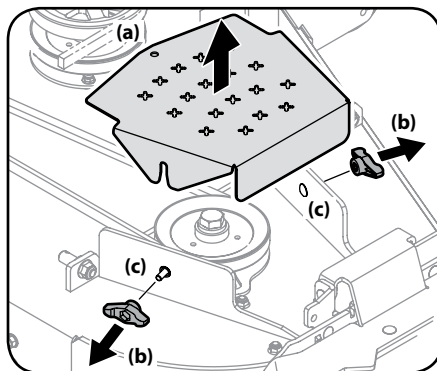

Figure 4-14
3. To remove the belt covers (a), remove the wing knobs (b) from the carriage screws (c) securing it to the deck. See Figure 4-14.
4. The speed nut should hold the carriage screw (c) and tab bolt in place, if not re-install as shown in Figure 4-14.